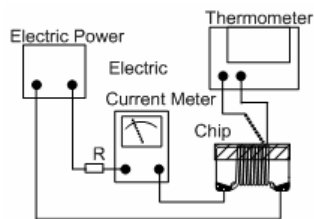

Fig. 6.3.4-1
- Definition of Rated Current (I_r): I_r is direct electric current as chip surface temperature rose just 15°C against chip initial surface temperature (T_a) (see **Fig. 6.3.4-2**).